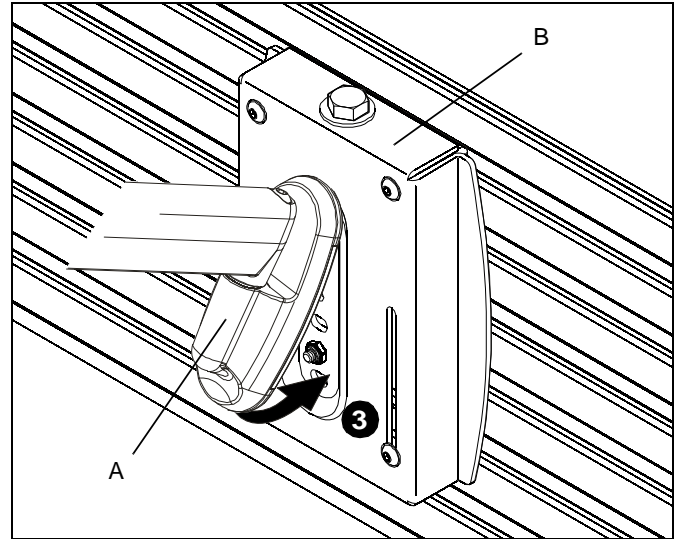

Figure 2
3. Swing mount (A) down flush against wall bracket (B). (See Figure 2)